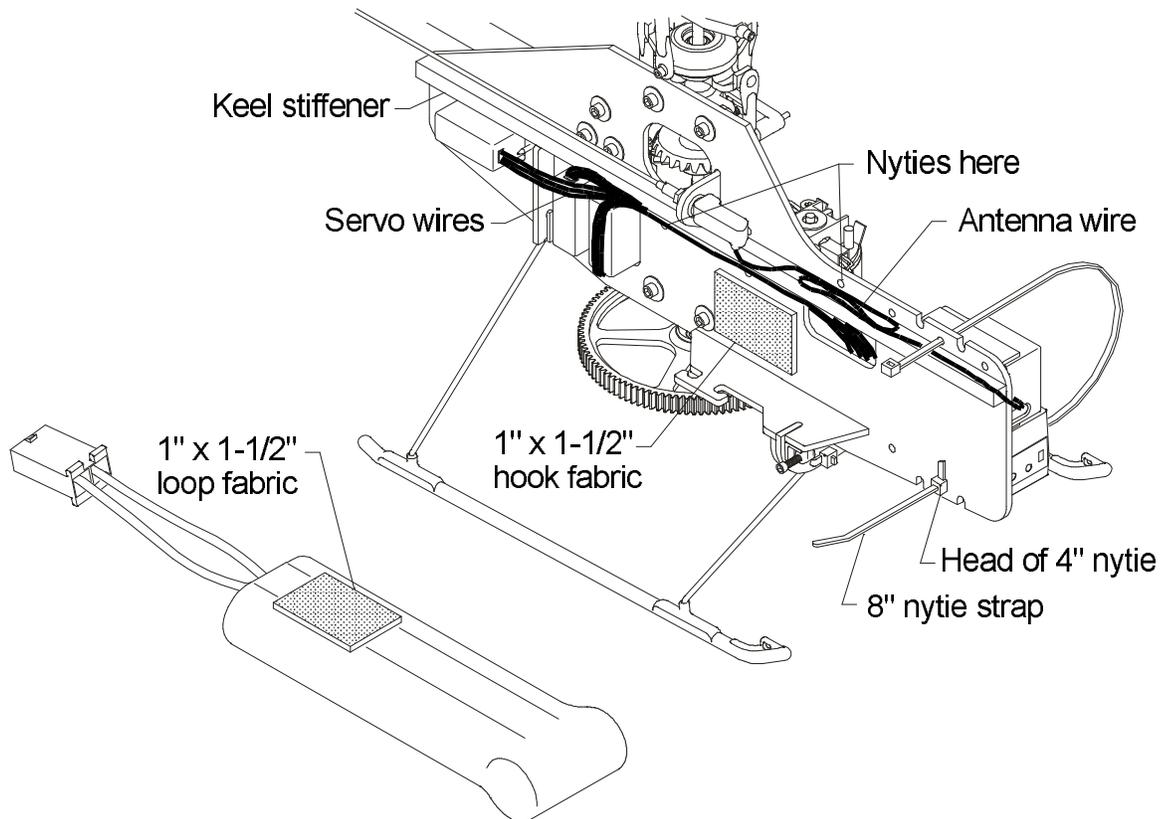

Figure 12-6.
- ❑ 17. Run the servo wires along the bottom of the keel stiffener as shown in Fig. 12-6, and lightly tie all wires to the keel with nylon cable ties (nyties).